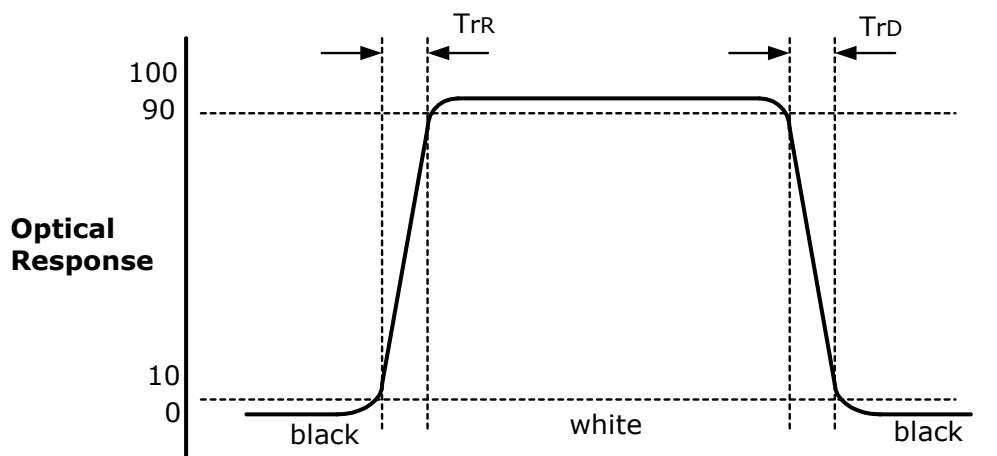

FIG. 6. Response Time
4. Response time is the time required for the display to transition from black to white (Rise Time, Tr_R) and from white to black (Decay Time, Tr_D). For additional information see FIG 6.